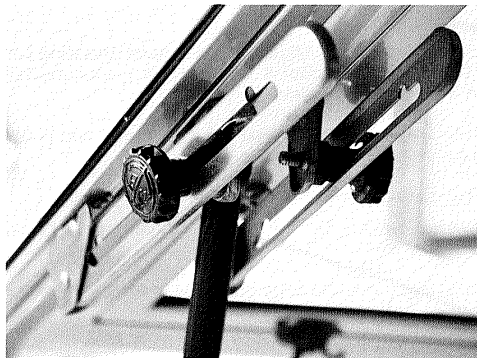

Figure 16
1. Turn each knob counterclockwise. See figure 16.